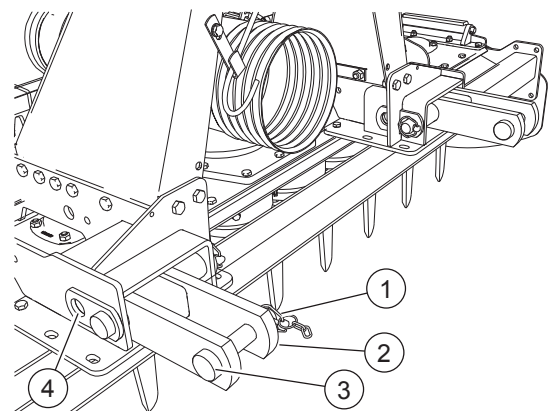

FIG. 26
- Remove the split pin (1, "Fig. 26").
- Take out the pin (3).
- Take out and rotate at 180° the tractor hitch (2).
- Insert the pin (3).
- Fasten the pin with the split pin (1).